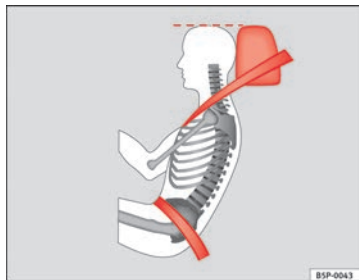

Fig. 14 Correct seat belt and head restraint positions, viewed from side
- The lap part of the seat belt must lie across the pelvis, never across the stomach. The seat belt must lie flat and snugly on the pelvis ⇒ Fig. 14. Pull the belt tight if necessary to take up any slack.